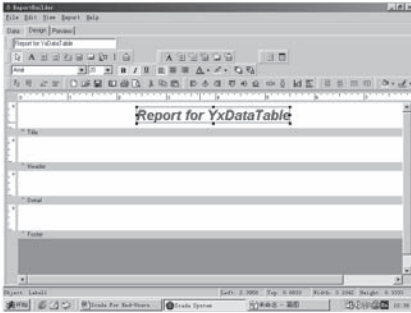

Fig. 8.13
3.1) Title: For example, as in Fig. 8.13, set the title of the report as Report for Remote signal DataTable.